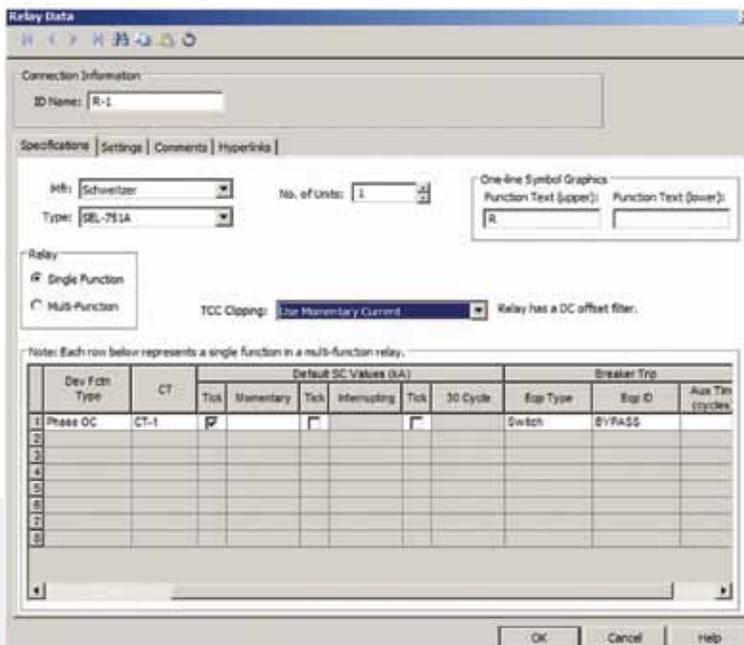

Figure 6a. Example of relay settings for controlling the MVCF.
Step 6. In the example, the relay connected to the CT installed on the transformer secondary needs to be set to control the bypass switch S-1. Use the the relay dialog box on the specification tab (see Figures 6a and 6b).